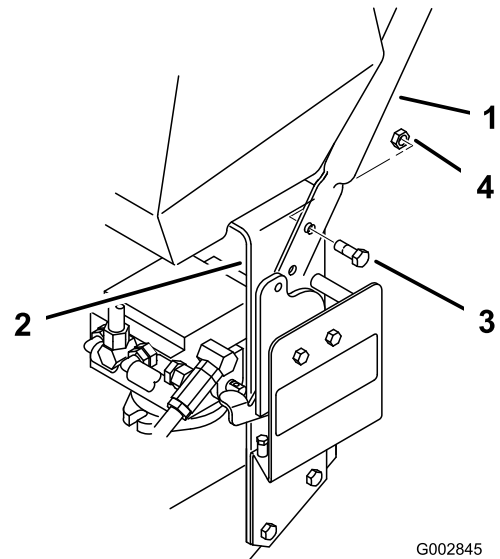

Figure 4
1. Align handle with upper mounting holes in rear frame (Figure 4).
2. Secure the handle at each upper mounting hole with a flange bolt (3/8 x 1 inch) and flange nut (Figure 4).
3. Select the high, medium, or low position for the lower mounting hole. Secure the handle at each lower mounting hole with a flange bolt (3/8 x 1 inch) and flange nut (Figure 4).